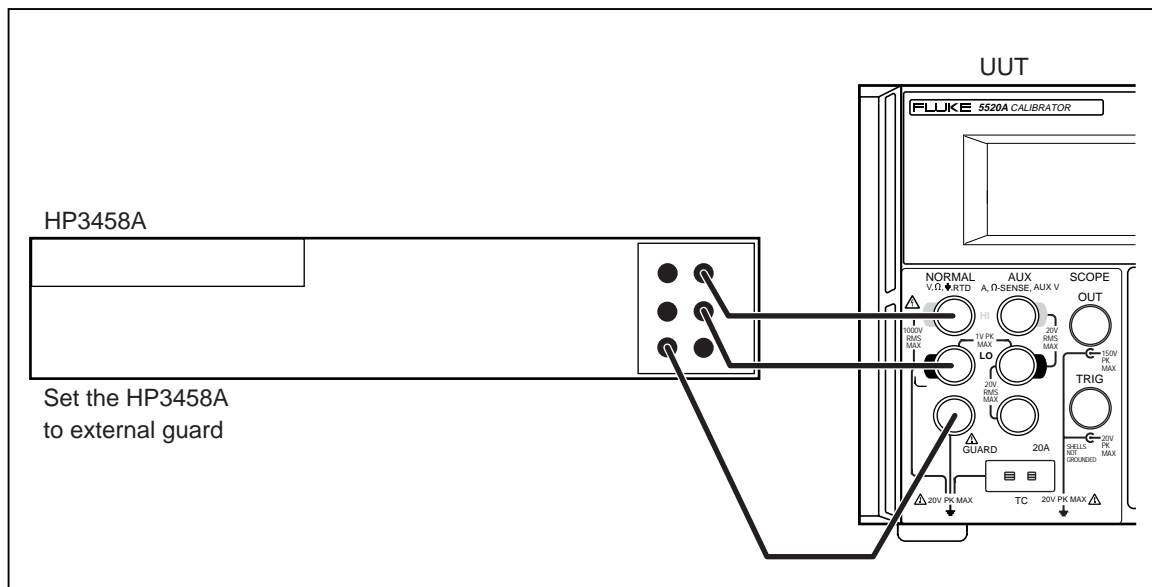

Figure 3-1. Connections for Calibrating DC Volts up to 30 V
5. Connect the test equipment as shown in Figure 3-1.